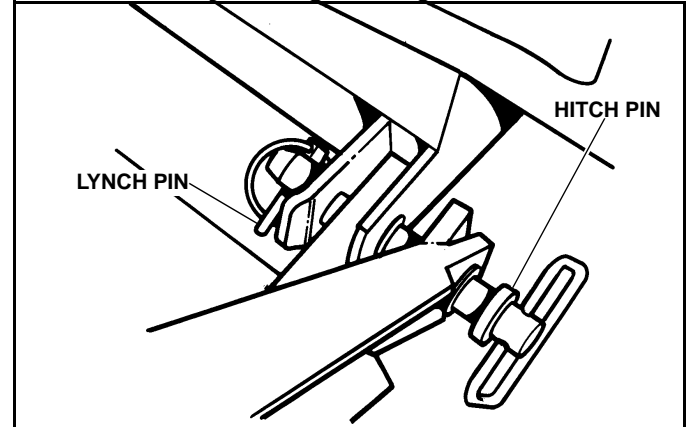

Figure 1-3
*NOTE: If the plow and vehicle are not level with each other, install one lower Hitch Pin and then, using the Rocker Switch on the pump cover, (See Figure 1-3) adjust the A-Frame height to allow installation of the second lower Hitch Pin.*